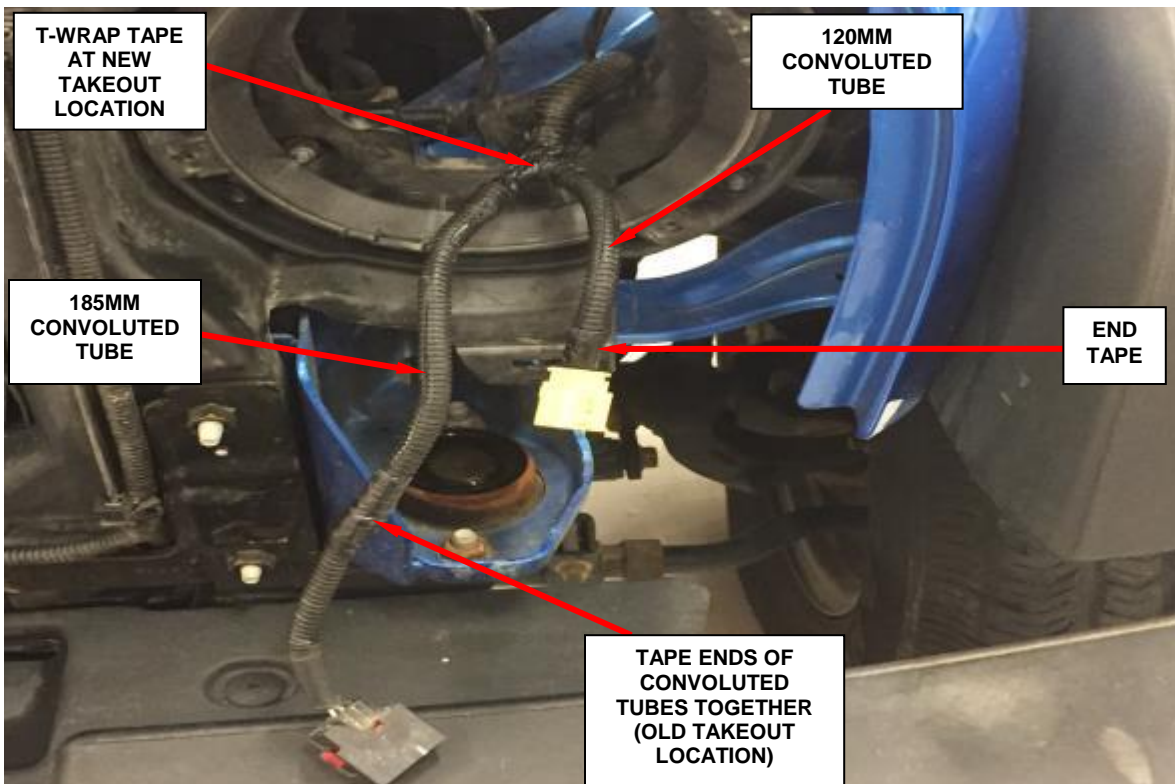

Figure 17 – Install Convoluted Tubes
44. Install the 185mm (7.25in) convoluted tube to wire harness (Figure 17).
45. Install the 120mm (4.75in) convoluted tube to left front impact sensor wiring pigtail (Figure 17).
46. Tape the end of the convoluted tube at the left front impact sensor (Figure 17).
47. T-wrap tape the new takeout location on the wire harness (Figure 17).
48. Tape the convoluted tubes at the old takeout location on the wire harness (Figure 17).